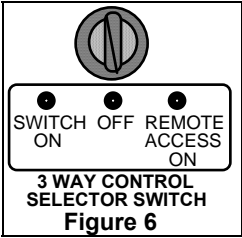

Figure 6
- **Switch Models (C9-S) 3 Way Selector Switch:** Mode selections: SWITCH ON, OFF REMOTE ACCESS ON. See Figure 6.
2. Place the **3 Way Control Selector Switch** in OFF (Fig 6). Turn off all Remote Accessory Controls (Switch or Hand Held Remote) or place Thermostat to lowest setting.
After successful pilot lighting, allow 60-90 seconds for the Thermogenerator to heat up. To turn burner on, place **Control Selector Switch** in the "ON" position (see Figure 6). To turn burner off (pilot remains lit) place **Control Selector Switch** in the "OFF" position.